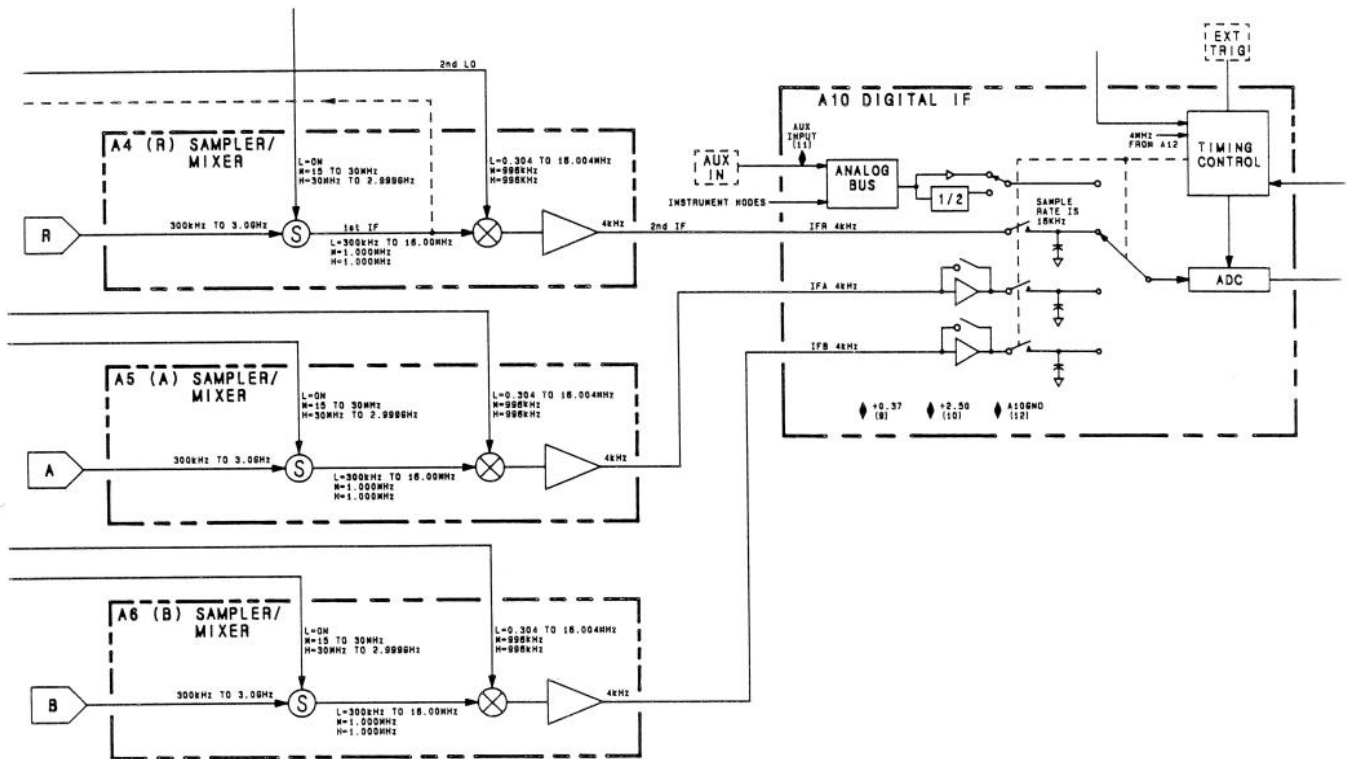

Figure 24A. Receiver Group Block Diagram
Refer to Figure 24A, which illustrates the receiver group block diagram and the relationship between the assemblies in that group.
3. Verify that the A5 and A6 sampler/mixers are good. Refer to the Figure 24A, Receiver Functional Group Block Diagram.